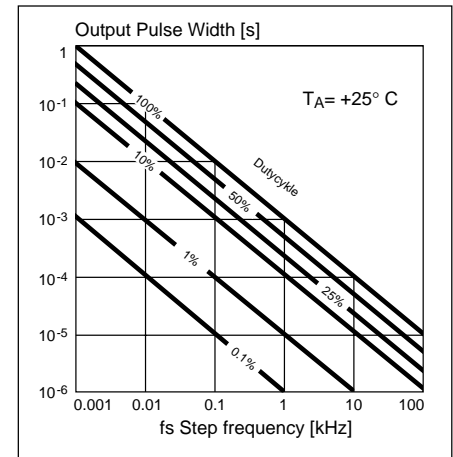

Figure 22. Typical t_{on} vs. f_s/dc . Output pulse width vs. step frequency/duty
- Figure 22 shows the relationship between duty cycle, pulse width, and step frequency. Check specifications for the valid operating area.